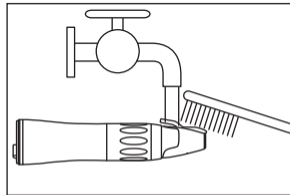

Fig. 11
1) Clean the exterior of the handpiece under running water using a soft brush (non-metallic) (Fig. 11).